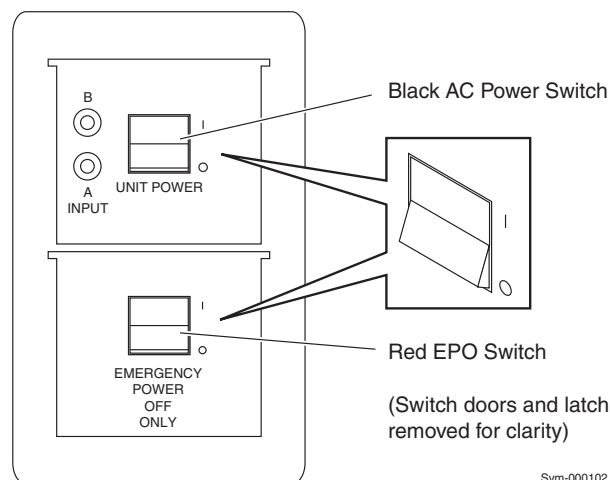

Figure B-1 Symmetrix DMX power switch
2. Press the AC (black) power switch on the rear door (Figure B-1 on page B-2) to the down (O) position. Do *not* press the EPO (red) switch.
1. On the rear door, lift the cover to the red EPO switch (Figure B-1 on page B-2).
2. Lift the protective latch, then press the red EPO switch to the down (O) position.